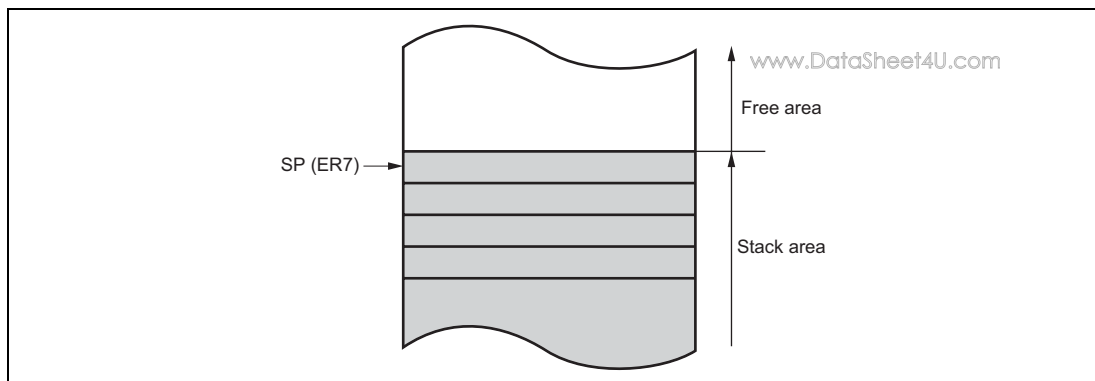

Figure 2.6 Stack
General register ER7 has the function of the stack pointer (SP) in addition to its general-register function, and is used implicitly in exception handling and subroutine calls. Figure 2.6 shows the stack.